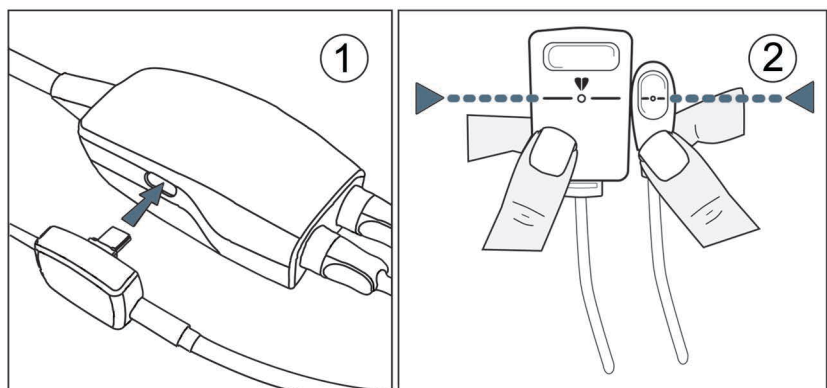

Figure 11-7 Heart reference sensor calibration
- 2 Connect the HRS to the pressure controller. See ① in figure 11-7.
- 3 Vertically align both ends of the HRS and touch the **Calibrate** button. See ② in figure 11-7.